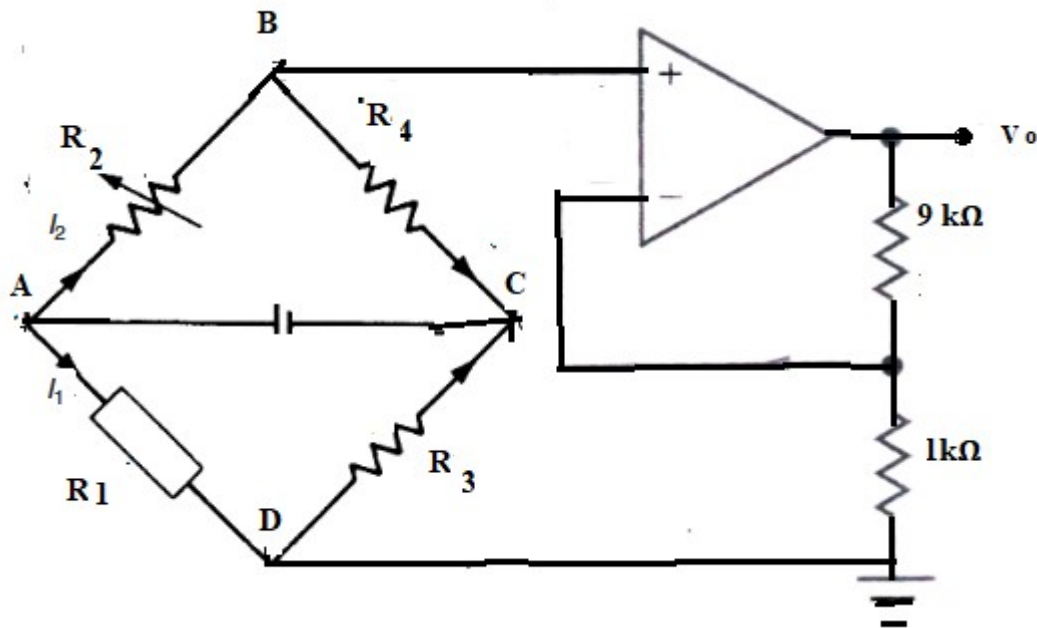

Figure Q3c
- c) The bridge arrangement of Figure Q3c contains in its fourth arm a resistive strain gauge transducer of value $R = 1000\Omega$ when unloaded. When loaded the transducer changes by ΔR depending on the load. If for a particular case $\Delta R = 100\Omega$, determine the reading of the voltmeter